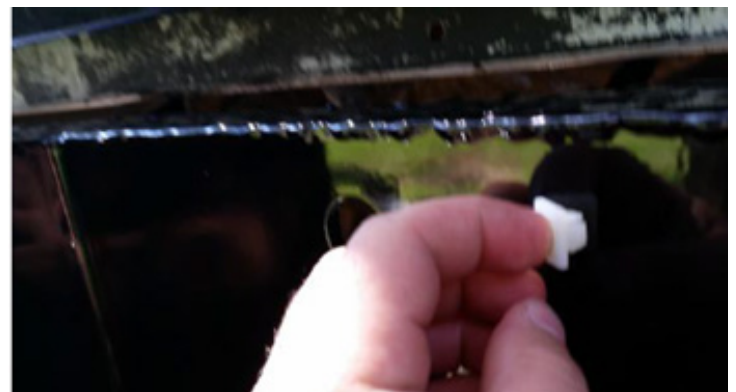

Figure 5
16. Reinstall license plate with provided plastic inserts. (Figure 5)